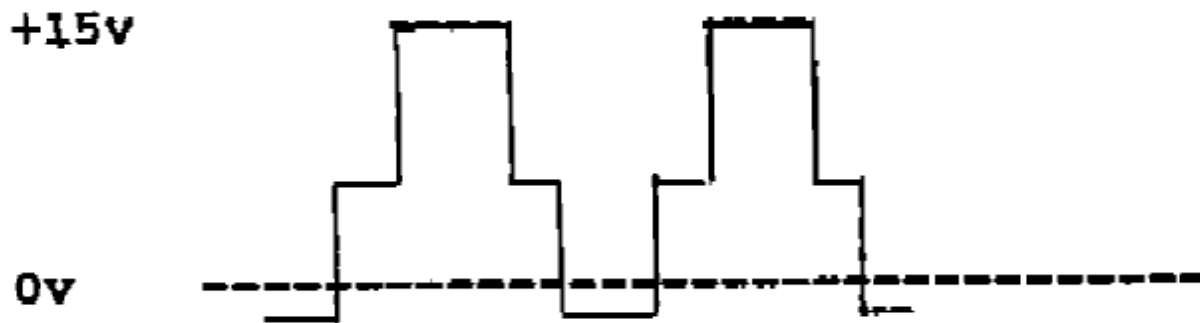

Figure 4
e. Observe figure4 on U4-pin1 at $\approx 1.2\text{kHz}$.